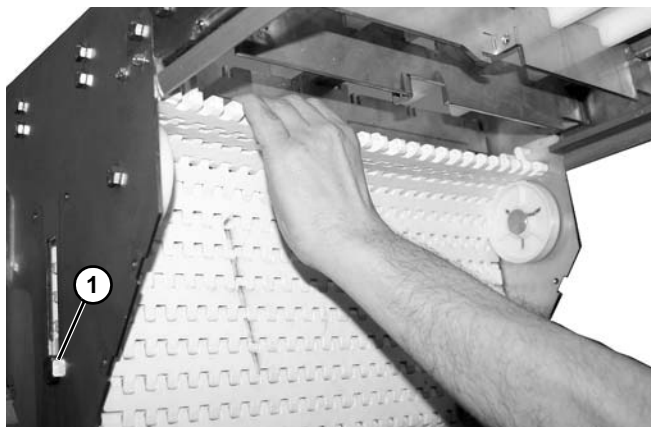

Figure 104
7. Install the end of the belt around the gravity take-up (Figure 104, item 1) and to the opposite end of conveyor.